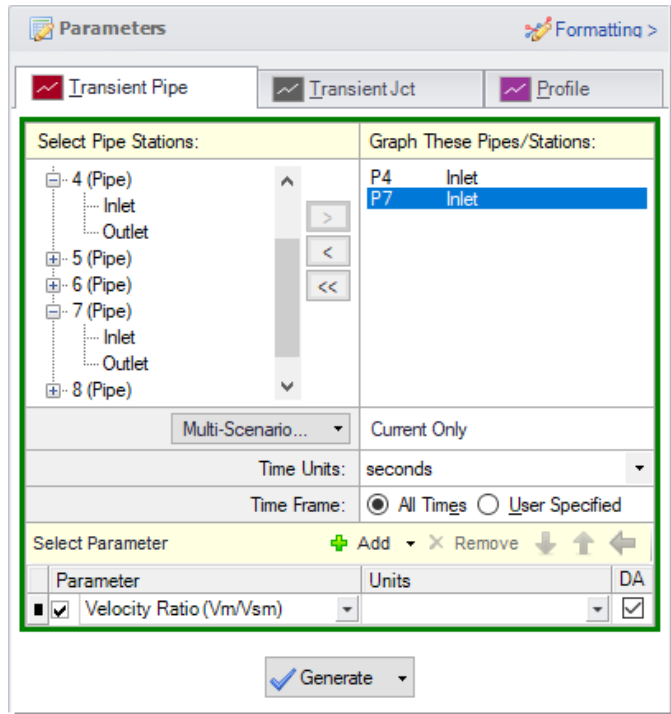

Figure 6.10 Data selection to view the velocity ratio over time
1. On the Transient Pipe tab, select Pipes P4 Inlet and P7 Inlet and add them to the Graph These Pipes/Stations list (Figure 6.10). These are the two sloped pipes which have the lowest velocity ratio.